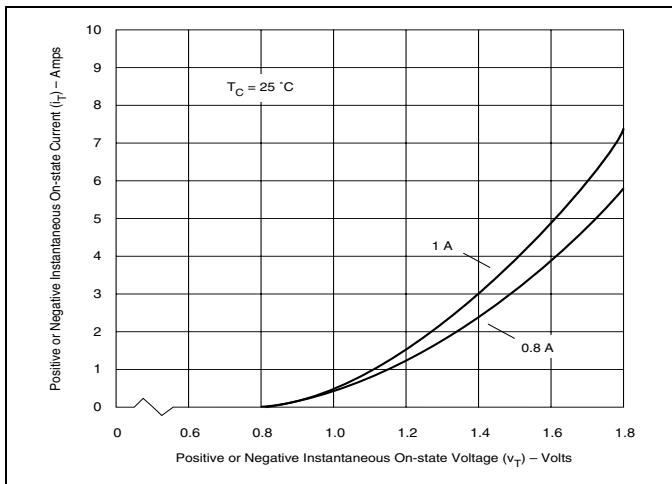
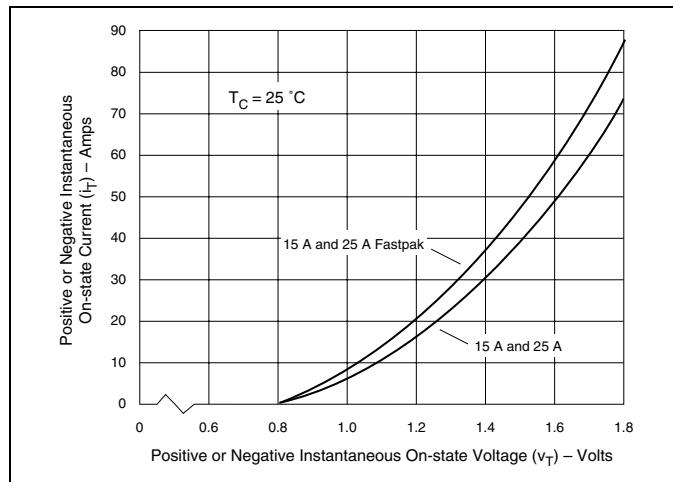

Figure E2.8 On-state Current versus On-state Voltage (Typical) (0.8 A and 1 A)
Figure E2.10 On-state Current versus On-state Voltage (Typical) (15 A and 25 A)
- (5) See Figure E2.8 through Figure E2.10 for I_T versus V_T.